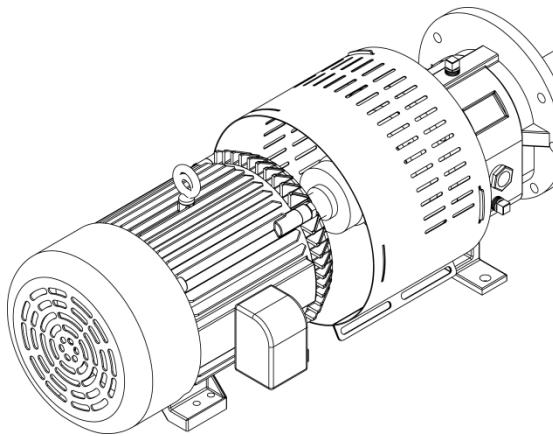
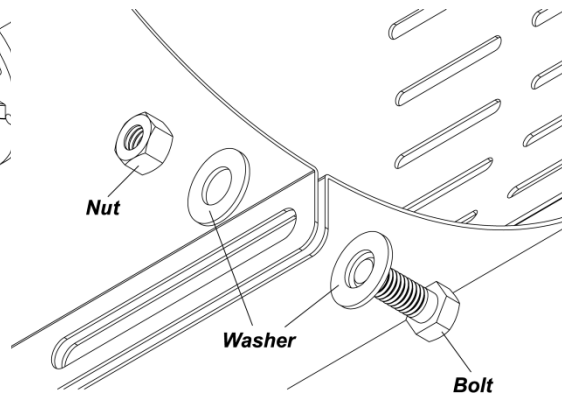

**Figure 12-4: Shroud Install**
**Figure 12-5: Annular Tabs**
2. Slightly spread the bottom of the coupling guard half (pump end) and place it over the pump end plate as shown in Figure 12-4. The annular groove in the guard half is located around the end plate. (See Figure 12-5.)